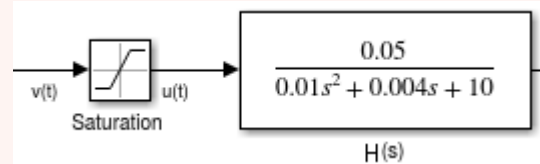

Figure 3.
4. In the real life, an actuator cannot execute arbitrarily large input signal, e.g. a voltage source cannot generate arbitrarily high voltage. Therefore, before we connect the design control input computed by  $C(s)$  to the plant  $H(s)$ , we should limit the range of the input signal to the interval  $u(t) \in [-1000, 1000]$ . In order to implement this you can use the “Saturation” block (Figure 3).